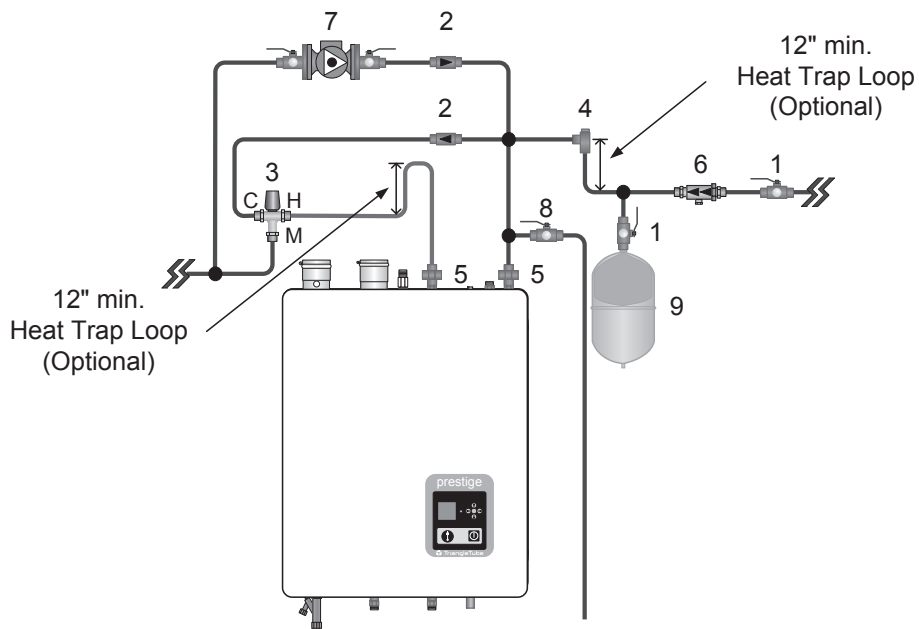

Fig. 5: Standard Installation Domestic Piping with Optional Recirculation Excellence Series
- Recirculation piping must be installed in the cold water inlet as shown Fig. 5, page 9.